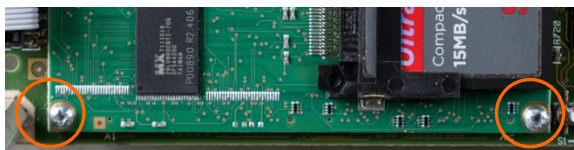

Figure 4-56: ETX Board Mounting Screws
2. Remove the other two screws securing the ETX board in place, shown in Figure 4-56.
3. Taking precautions to avoid static discharge, lever the ETX board up from its connectors, starting at the CF card end indicated in Figure 4-56.